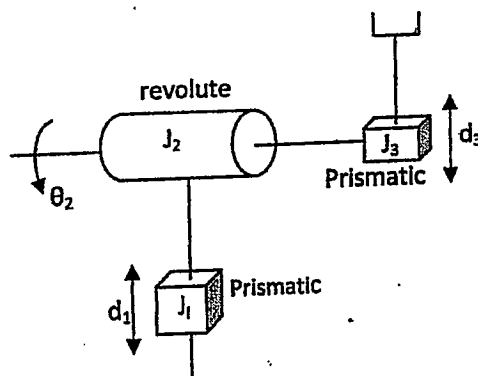

Fig. 1
4. A spatial PRP manipulator is shown in Fig. 1. Assign the link frames and obtain the D-H parameters. Write direct kinematic equations. The joint variables are d_1 , θ_2 and d_3 . [16]